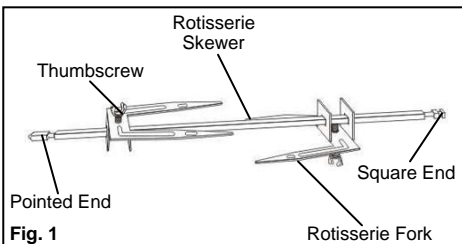

Fig. 1
5. Insert one of the rotisserie forks onto the rotisserie skewer making sure that the forks face the same direction as the point on the skewer. (Fig. 1)